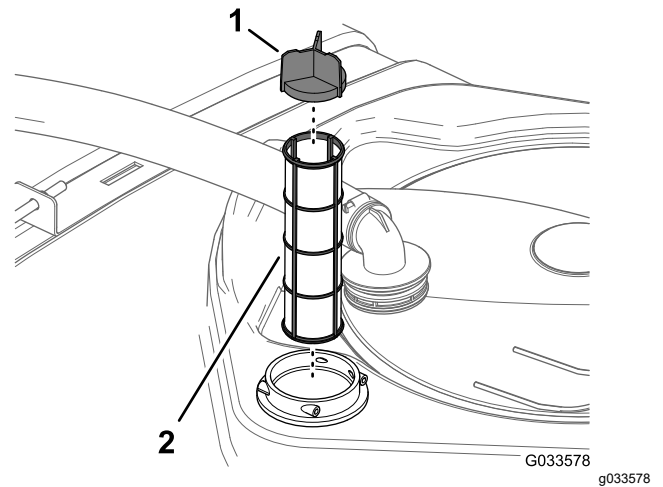

Figure 113
4. Remove the old suction filter from the filter housing in the tank (Figure 113).